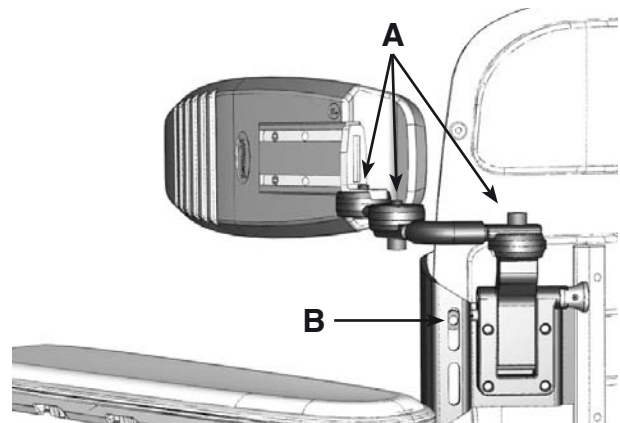

Fig.5. Adjusting the Trunk support.
1. Loosen the screw (B). Adjust the support to the desired height and secure by retightening the screw. Fig. 5.
2. Loosen the screws (A). Adjust the support to a comfortable position for the user and secure by retightening the screws. Fig. 5.